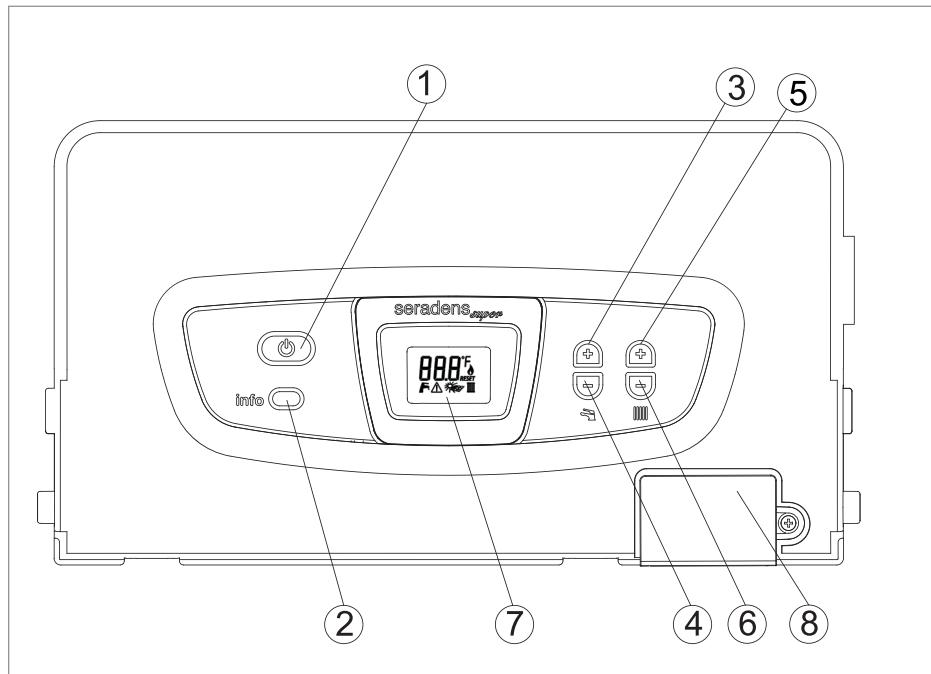

Figure 1. Control panel
You can activate the user info menu simply pressing the Info key (2) (Figure 1) for a time period of 2 seconds. You can see many information and values alternately in the user info menu. To display sequentially all the other variables supported, press the DHW temperature increase (3) and decrease (4) keys.
Press key (1) (Figure 1) to operate your boiler in “SUMMER” mode and see only the tap symbol () continuously shown on the display. At this mode combi boiler only operates for the domestic hot water (DHW) system. The automatic ignition system lights the burner every time if there is a demand for DHW. The existence of the flame is shown with a flame symbol () on the display. During DHW usage, the tap symbol () on the display blinks.
In order to operate the combi boiler in “WINTER” mode, press key (1) (Figure 1) and see tap symbol () and radiator symbol () continuously shown on the display. At this mode combi boiler operates for the domestic hot (DHW) and heating (CH) systems. The automatic ignition system lights the burner every time there is a demand for both. The existence of the flame is shown with flame symbol () on the display. In this case, the tap symbol () on the display blinks when system operates for DHW and radiator symbol () blinks when system operates for CH.
In order to operate the combi boiler in “ONLY HEATING” mode, press key (1) (Figure 1) and see only radiator symbol () continuously shown on the display. At this mode combi boiler only operates for heating (CH) system. The automatic ignition system lights the burner every time there is a demand for CH system. The existence of the flame is shown with flame symbol () on the display. In this case, radiator symbol () blinks when system operates for CH.
- When electricity is supplied to the appliance, “OFF” word can be seen on the display. Pushing mode button (Figure 1) leads to change the operating mode, every push changes mode sequentially between SUMMER-WINTER-ONLY HEATING-OFF.
- Check that there are no flashing numbers on the display (7) (Figure 1) (also see Section 2.9). If code E04 appears on the display (7) this denotes that there is no water in the boiler. Consequently, fill the system as described in Section 2.7.
The heating temperature is regulated by using keys (5) and (6) (Figure 1).
- Pushing key (5) will increase the CH set point temperature.
- Pushing key (6) will decrease the CH set point temperature.
DHW temperature is regulated by using keys (3) and (4) (Figure 1).
- Pushing key (3) will increase the DHW set point temperature.
- Pushing key (4) will decrease the DHW set point temperature.
This paragraph contains a list of error codes that the boiler may generate on the display (7) (See Figure 1) together with the relative indications and the operations that the user can carry out to reset the boiler.
- Turn off and then turn on the appliance using button (1) (Figure 1) on the control panel. Let the system ignite by itself, if **E01** error remains, retry to turn off and turn on the appliance once again. This action is taken in order to be sure if the gas in the pipes reached to the appliance.